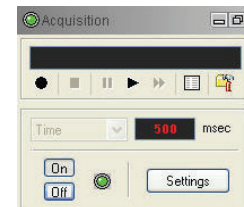

Figure 4-2 Acquisition panel
7. ☐ In the **Acquisition** panel (**Figure 4-2**) select the sampling mode (Depth Up). Click on **Settings** and specify the corresponding sampling interval. Switch on the sampling (click the **ON** button).
8. ☐ Press the **Record** button in the **Acquisition** panel (**Figure 4-2**), specify a file name and start the logging.